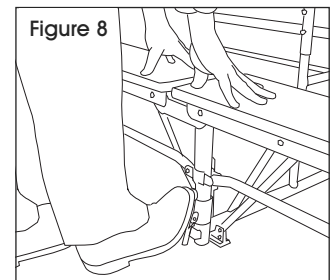

Figure 8
- Push down on benches while disengaging down latch on center post using foot. (See Figure 8)